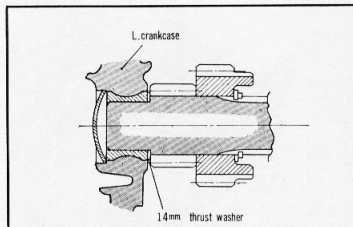

Figure 3-84. Thrust washer C50, C50M, C65, C65M
- a. Check to make sure the 13.5mm thrust washer is installed on the countershaft and the 14mm thrust washer is installed on the main shaft on C50, C50M, C65 and C65M. (Fig. 3-84)